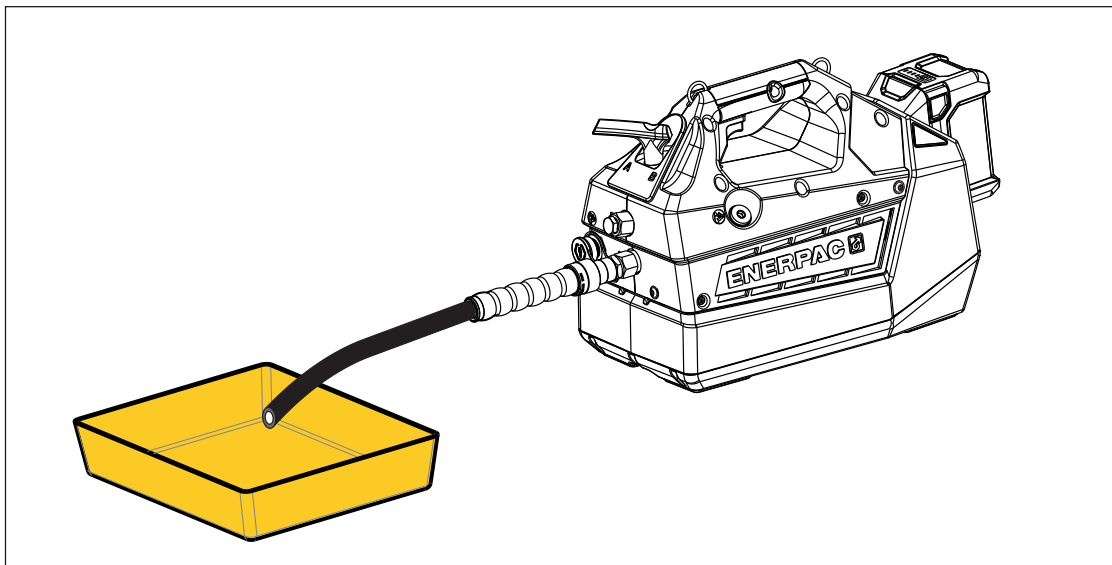

Figure 14: Draining the Hydraulic Reservoir
9. Pull the trigger switch upward to start the pump motor and begin draining the reservoir. Continue running the motor until oil stops flowing from the open-ended hose. Then, release the trigger switch. See Figure 14.